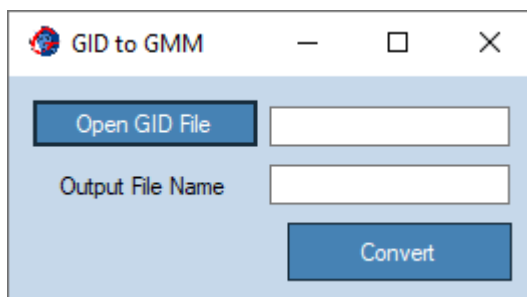

Figure 21: GID® to *Geo Meshing v4.3* dialog windows.
- **GID® to GM:** Opens a dialog window (shown in Figure 21) for converting GID® meshes files (*.msh) to *Geo Meshing v4.3* files (*.gmm). This program only works with 2D meshes exported from GID®. More information can be obtained at www.gidhome.com/.